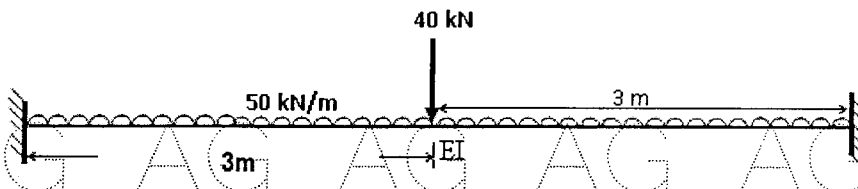

Figure: 5
3. Analyse a fixed beam of span 6 m subjected to loading as shown in figure 5 and draw the bending moment diagram. Also find the magnitude and location of maximum deflection. [10]